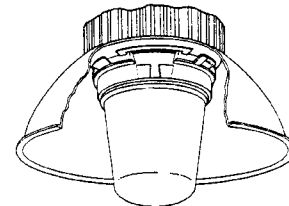

FIGURE 5
3. Continue to rotate reflector clockwise until reflector tabs engage final captivating bosses and the reflector "snaps into position". See figure 5.